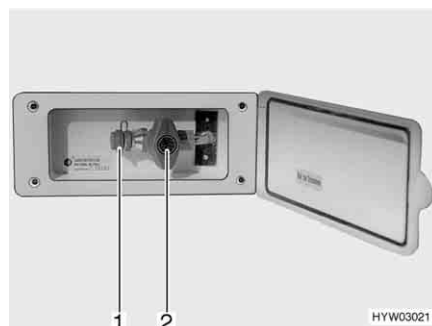

Fig. 153 External gas connection, gas isolator tap closed
The external gas connection (Fig. 153) is located at the rear or to the left or right of the vehicle depending on the model.
- Connect the external gas device to the connection point (Fig. 153,1).
- Open the gas isolator tap (Fig. 153,2).